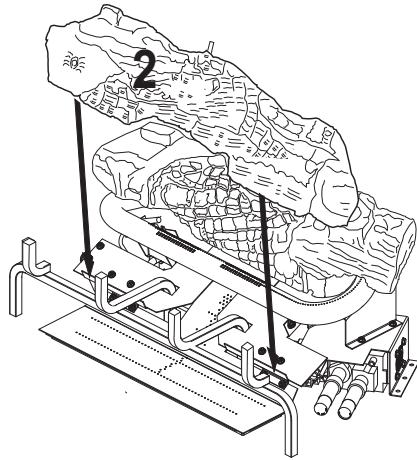

Figure 23 - Installing Log # 2
- Place the middle log (#2) in front of the U-burner and against the edges of the plate as shown in **Figure 23**.